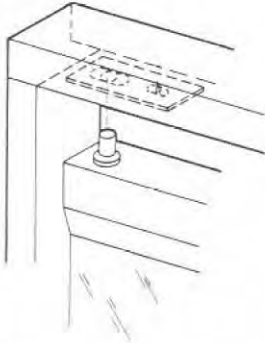
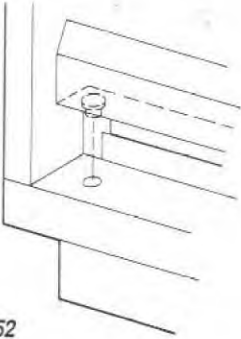

Figure 51
Figure 52
**Step 6.** Start with either the right or left door assembly and engage the longer upper hinge pin into the upper hole in the adjustment plate (Figure 51). Swing the lower corner of the door into position over the hole in the lower trim bar and engage the short pin in this hole (Figure 52). Repeat this procedure for the opposite door assembly.